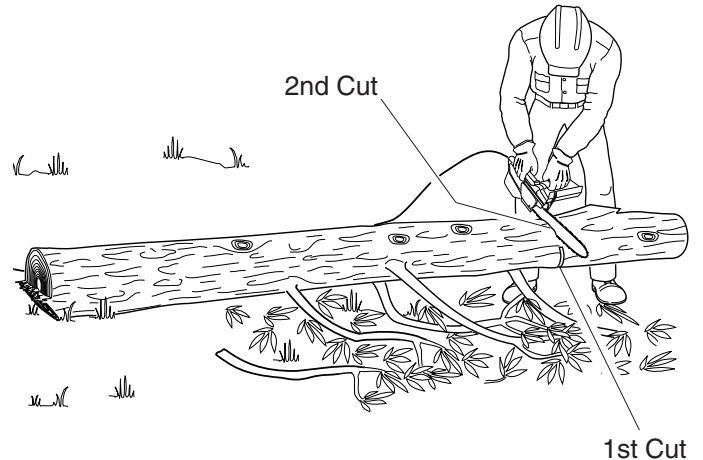

Figure 16 - Bucking Log When Log Is Supported On One End
1. Make first cut on underside of log (see Figure 16). Use top of guide bar to make this cut. Cut 1/3 through diameter of log. This cut will keep section from splintering when cut.